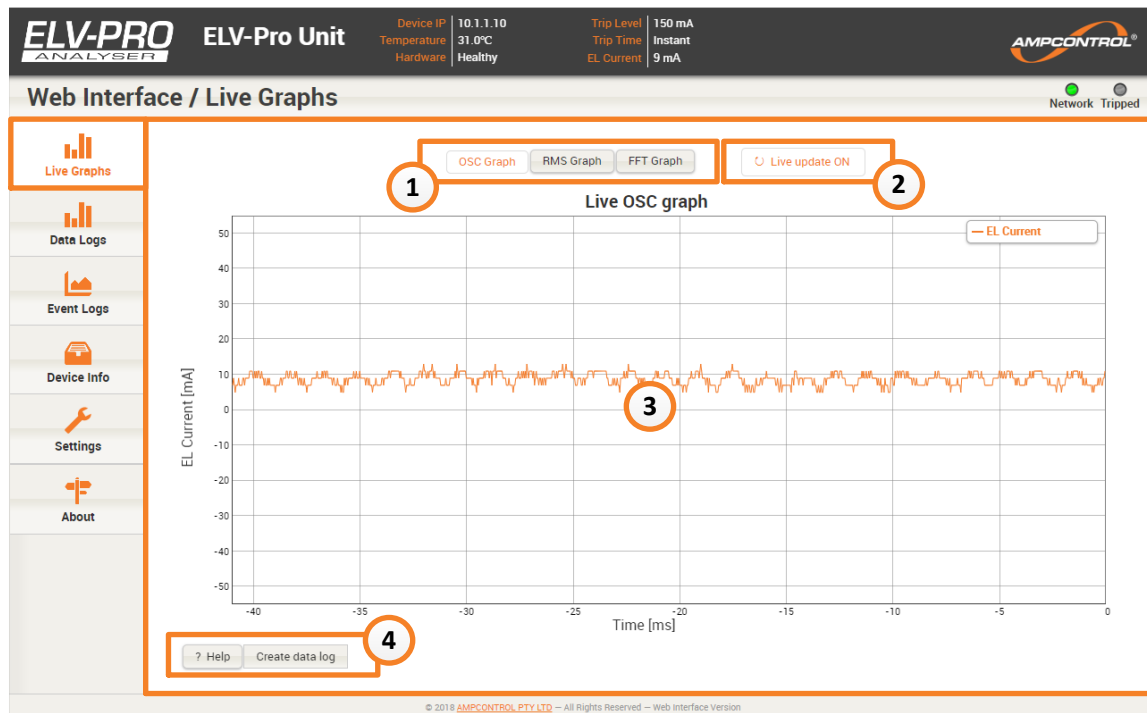

Figure 6.4: ELV-PRO Web Interface - Live Graphs (OSC)
- OSC (Oscilloscope) graph: Plots the instantaneous values of earth leakage current measured by the ELV-PRO. At every update, it displays the last 80ms of data. Figure 6.4.
For information on navigating the interactive graphs see Section 6.2.8. There is also a Help button below the plots, item 4 of Figure 6.4, which allows access to online help information.